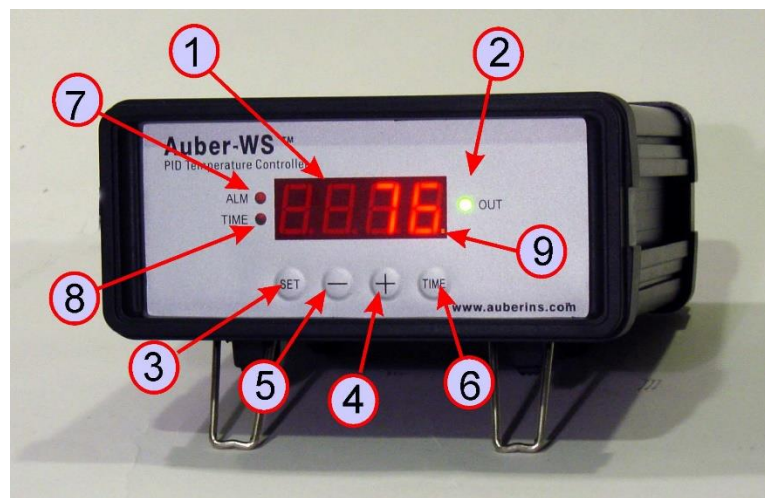

Figure 1. Front Panel.
The front panel of the controller is shown in Figure 1. The function of each item is described below:
At normal operating mode, press the “+” key (item 4 in Figure 1) to toggle the display window between the current temperature and the current step number at which the program is running (P-X). At time displaying mode, press the “Time” key to toggle the display between the total time (in minutes) since the controller was powered up and the time past in the current step. For example, the controller has being running for 100 minutes in total, but currently it is at step 2 for 40 minutes. So when you first press “+” key, controller will show “P-2” in the window. If then you press “Time” key, the controller will show “P 40” with the Time Indicator lit.
At normal operating mode, press the “Time” key (item 6 in Figure 1) once to toggle the LED window between the current temperature and the total time (in minutes) since the controller was powered up. The Time Indicator (item 8 in Figure 1) will lit at same time. When the time is being displayed, press the “+” key will toggle the display between the total running time and the running time of the current step. For example, the controller has being running for 100 minutes in total, but currently it is at step 2 for 40 minutes. So when you first press “Time” key, controller